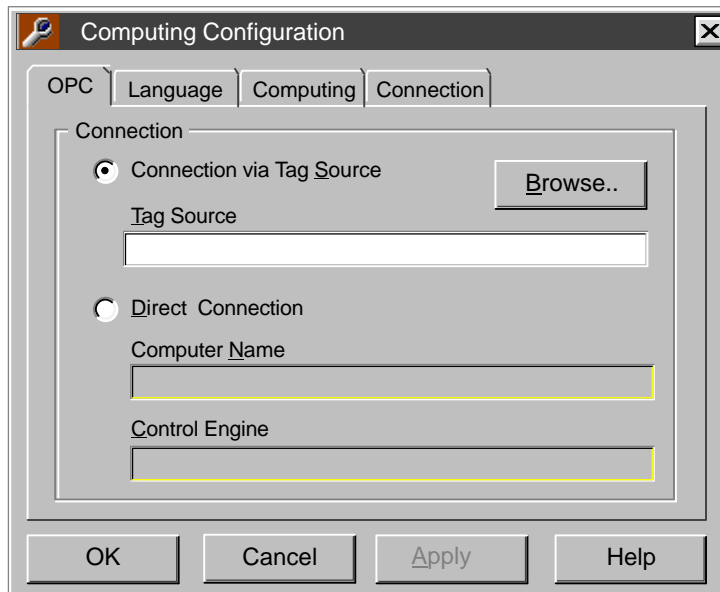

Figure D-1 Configuring the OPC Connection
As shown in Figure D-1, the OPC Setup application provides the following options for connecting to a control engine:
1. Select the **Simatic ► PC Based Control ► Computing Configuration** menu command from the Start menu to display the “Computing Configuration” dialog box. Select the OPC tab. See Figure D-1.